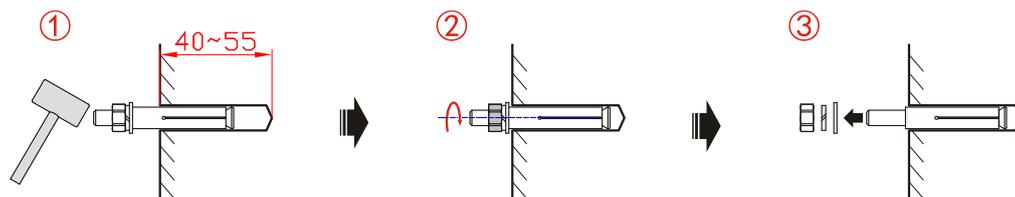

Figure3-14 Install the expansion bolt (unit: mm)
3. Drill holes and install the expansion bolts M6, as shown in Figure3-14.